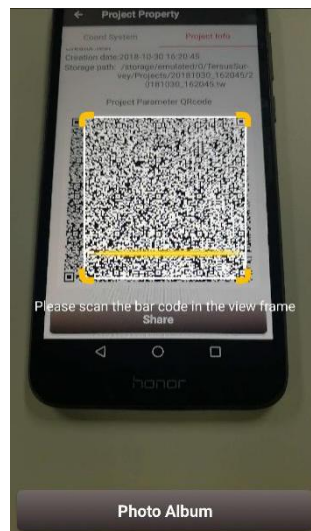

Figure 2.24 Scan QR code to get CRS info
- 2) The current surveyor opens the camera when creating new CRS to scan the QR code displayed as shown in Figure 2.24 above and can copy its coordinate system parameters. The QR code screenshot in photo album can also be scanned to obtain the CRS parameters.